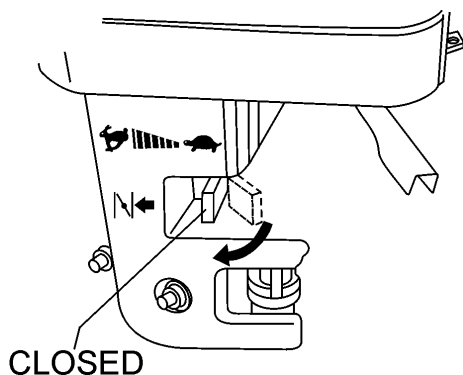

Figure 25. Choke Lever Closed
7. If the engine has started, slowly return the choke lever (Figure 25), to the **CLOSED** position. If the engine has not started repeat steps 1 through 6.